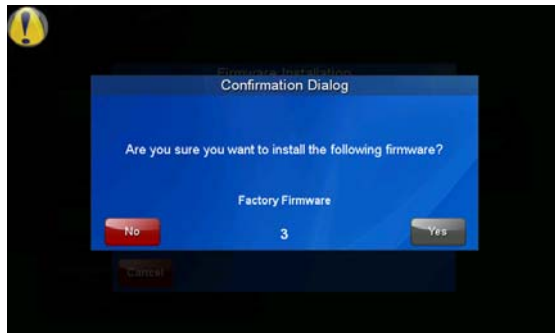

FIG. 118 Factory Firmware reset confirmation dialog box
4. The *Confirmation Dialog* box (FIG. 118) will ask “Are you sure you want to install the following firmware?” The option to choose **Yes** will be enabled after five seconds. Press **Yes** to load the firmware listed, and **No** to return to the *Firmware Installation* popup window.